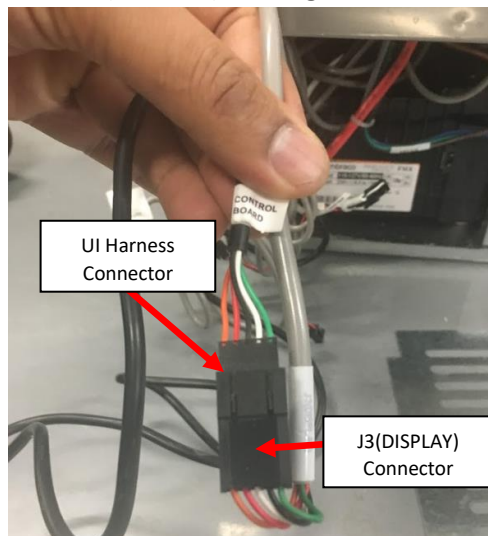

Figure 120: UI Harness connected to J3 Connector.
- iii. Disconnect the existing UI Harness once identified. The existing UI Harness should be identical to the replacement UI Harness. The UI Harness should be connected to a Gray Harness leading to the Control Board identified with a label J3(DISPLAY). **See Figure 120.**